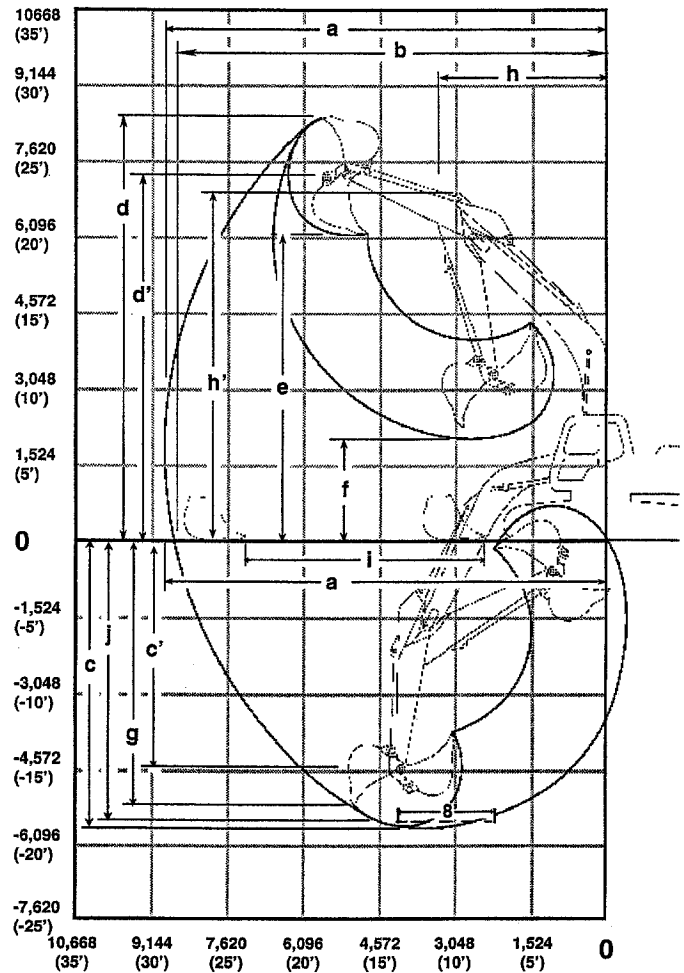

FIGURE 5.2
B. ATTACHMENT WORKING RANGES- Figure 5.2